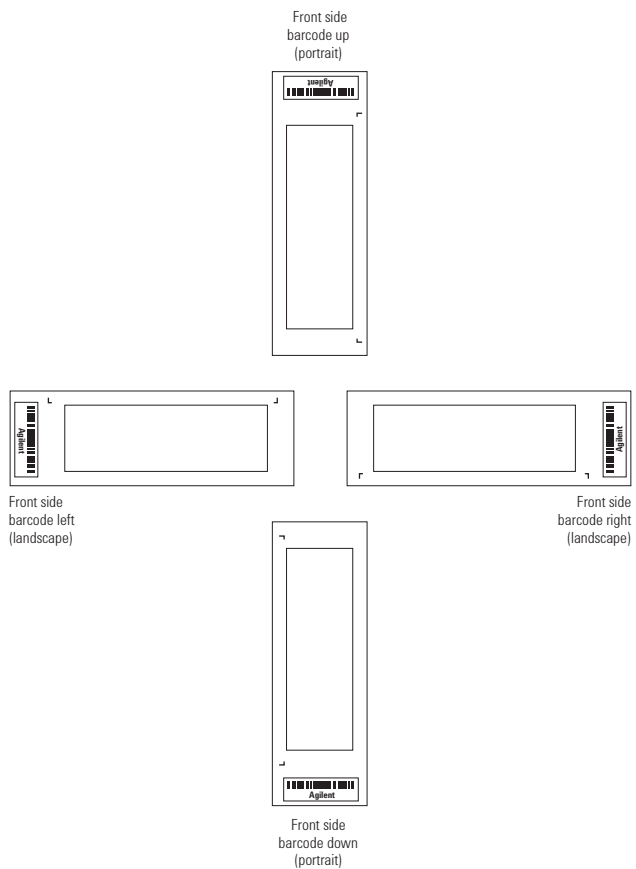

Figure 14 Microarray slide orientation
- If the microarray image produced by the non-Agilent scanner is oriented in a “portrait” or “landscape” mode, and “Agilent”-labeled barcode is on the left-side, right-side, up or down, as viewed as an image in the imaging software (see Figure 14).